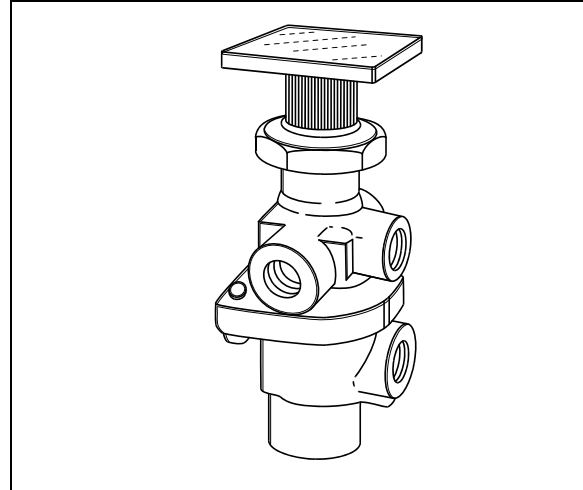

FIGURE 14: PP-1 12142
2. Access this valve by tearing out the finishing panel, which holds the controls in place (Figure 14).